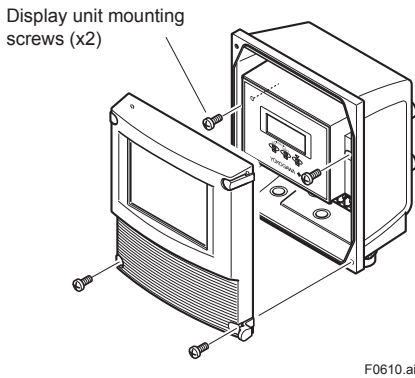

Figure 6.3.3 Removing the Front Cover and Mounting Screws of Display Unit for AXFA11 Remote Converter
- (1) Turn off the power.
- (2) While supporting the front of the cover with your hand, flip the connecting screw protective cover over, and remove the four connecting screws.
- (3) Loosen the amplifier assembly's two screws while supporting it with your hand (See Figure 6.3.3).